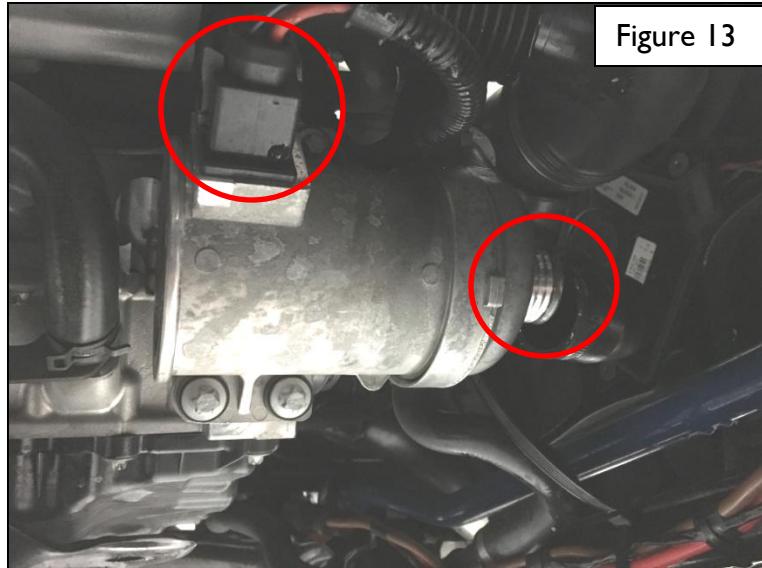

Figure 13
- Detach the hose and drain the coolant from the system (see Figure 13).